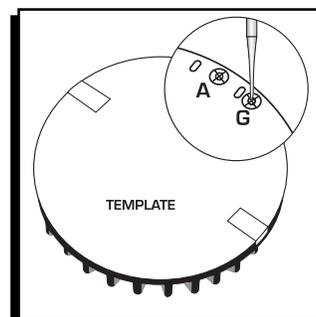

Figure 2 Marking Magnet Holes.
3. Using a center punch, mark the location of the magnet mount (Figure 2).